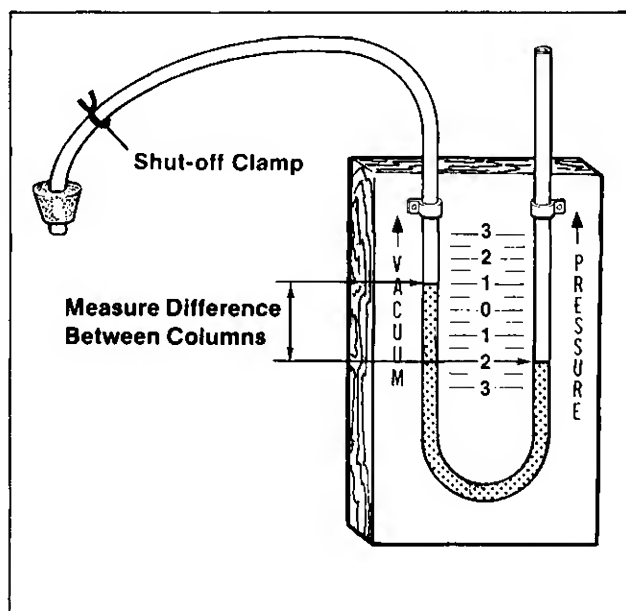

Figure 1-5. "U" Tube Manometer
Some procedures detailed in this manual recommend use of tools which can be made by the service man. (Figures 1-5 and 1-6)
1. Cut a piece of 1/2" plywood so it measures 10"x 30" as in Figure 1-5.
2. Fasten a six foot length of 1/2" O.D. clear plastic tubing to the plywood board as shown in Figure 1-5. Make a gradual rather than a sharp bend in the tube.
6. Pour colored water into the tube until the level reaches the halfway (0) mark of the scale marked on the plywood board.